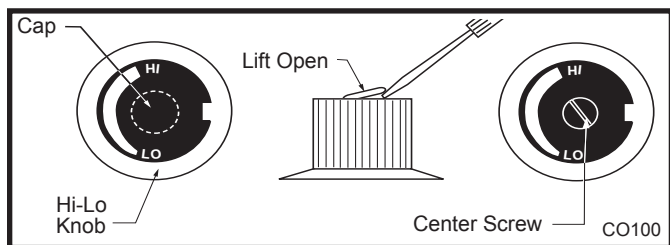

Fig. 27 Remove center screw from Hi-Lo knob.
1. Remove cap from Hi-Lo knob. This can be accomplished by lifting the plastic cap off the screw. (Fig. 27)
2. Remove the screw from center of Hi-Lo knob with small screwdriver turning counterclockwise. (Fig. 27)